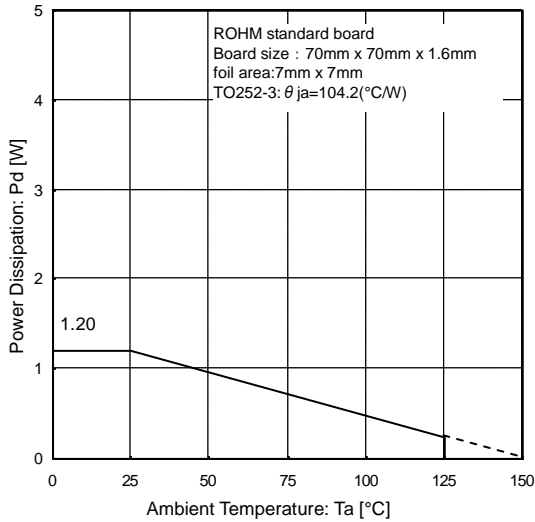
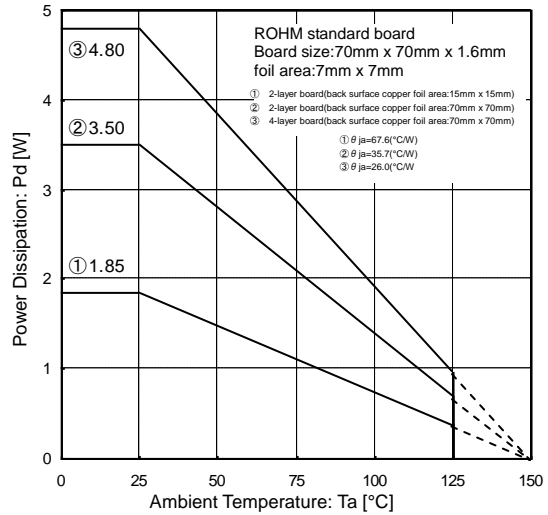

Figure 10
Figure 11
When operating at temperatures above $T_a=25^{\circ}\text{C}$, please refer to the derating factor shown in Figure 10 and Figure 11. The IC characteristics are closely related to the temperature at which the IC is used. It is necessary to operate the IC at temperatures below the maximum junction temperature (T_{jmax}).
Figure 10 and Figure 11 show the acceptable loss and derating factor of the TO252-3 package. The chip junction temperature (T_j) may be quite high even if the ambient temperature (T_a) is at room temperature (25°C). It is recommended to operate the IC at temperatures where Power Consumption (P_c) is less than the Power Dissipation (P_d).
The calculation method for Power Consumption P_c (W) is as follows : (Figure 11③)